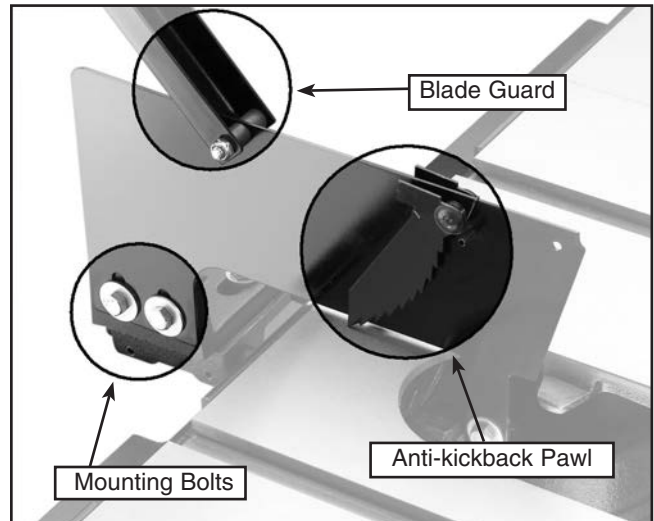

Figure 16. Blade guard and splitter in place.
1. Slip the blade guard/splitter over the mounting bolts as shown in **Figure 16**. The washers should be between the bolt head and the slots. Tighten the bolts to secure the blade guard/splitter.